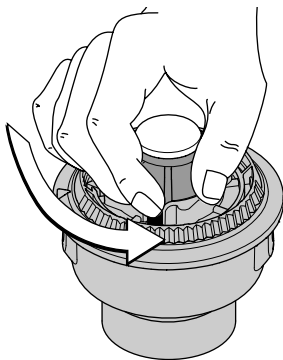

Fig. 44
1. Hold the outer spool, and unscrew the bump knob counterclockwise (Fig. 44).